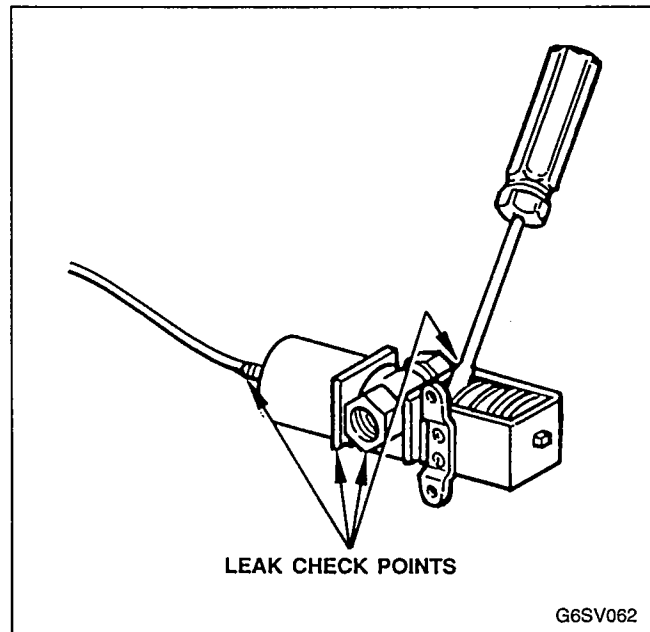

FIGURE 67. WATER REGULATING VALVE LEAK CHECK POINTS
2. Leak check where cap tube meets the bellows housing. See Figure 67.